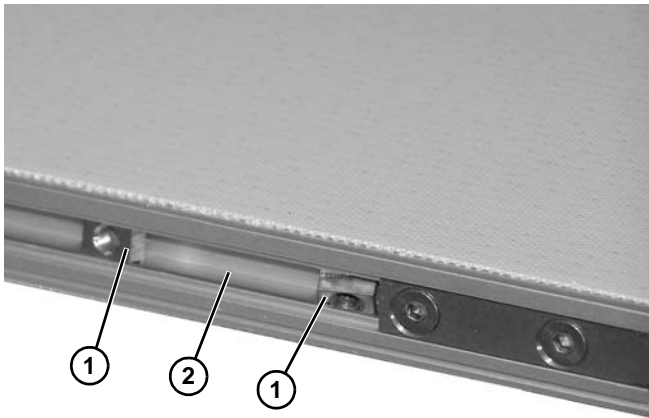

Figure 13
1. Insert two T-bars (Figure 13, item 1) into conveyor side slots (Figure 13, item 2).